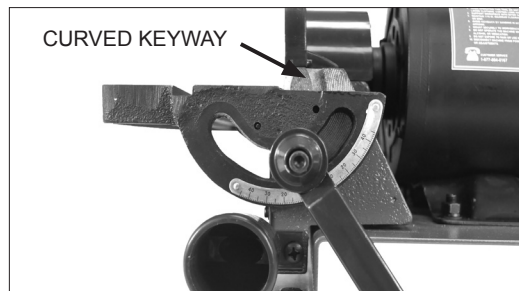

FIG. 10
22. Line the disc sanding table's slotted right end with the curved keyway in the sanding disc base. Position it in the keyway so that the handle can be installed, fastening the parts together. FIG. 10.